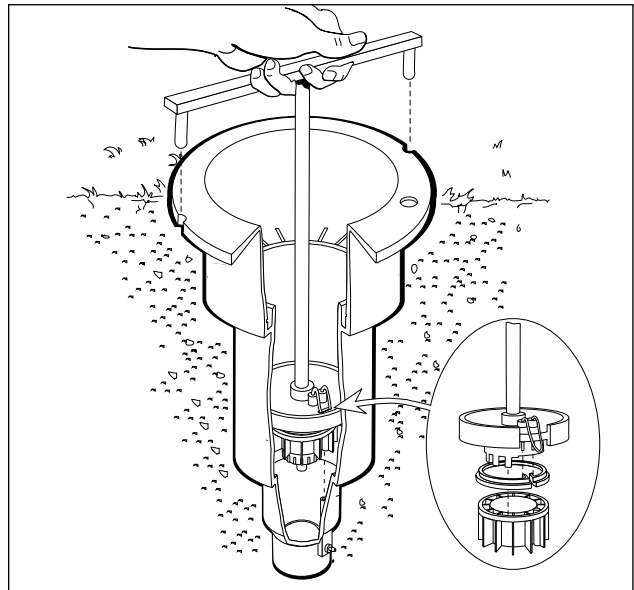

Figure 6
13. To reinstall valve assembly with snap ring and to prevent damage to the communication tube in sprinkler body, use valve insertion tool (P/N 995-11). Valve insertion tool will automatically line up valve assembly with sprinkler body communication tube and correctly seat the snap ring. (See Figure 6).
NOTE: It is possible to install the snap ring backwards (upside down). See inset in Figure 6 to insure that snap ring is installed in the correct manner.